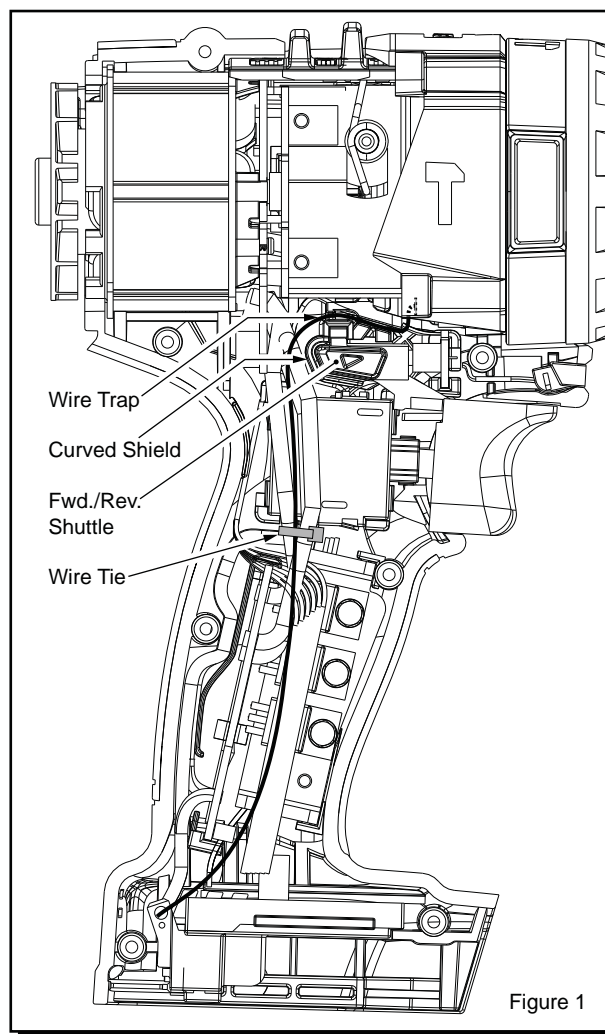

Figure 1
1. For a tool design with one long HV wire (one end soldered to the negative right rear terminal of the battery connector block and the other end grounded to the gearcase: *unsolder the old HV wire from the connector block and unscrew the other end from the gearcase. Discard old HV wire. Solder wire strand end of new 23-94-2125 to the negative battery terminal. See Figure 1.*